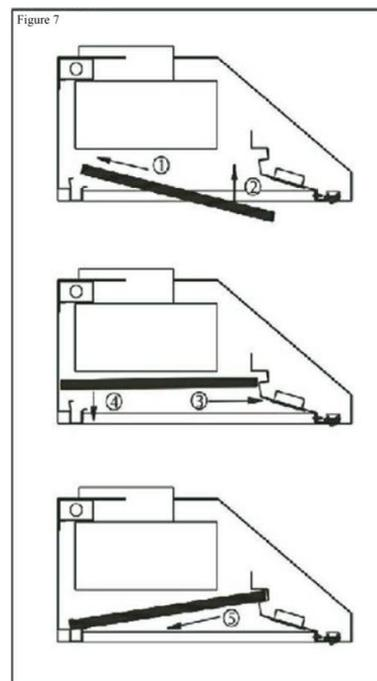

Figure 7
7. To install baffle filters, refer to Baffle Filters on page 7, for baffle filter placement. Refer to figure 7 for the following five steps: